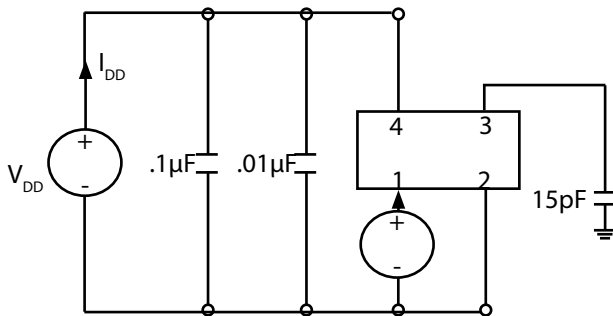

Fig 1: Test Circuit
- 2] Parameters are tested with the test circuit shown in Fig 1.
2] Parameters are tested with the test circuit shown in Fig 1.